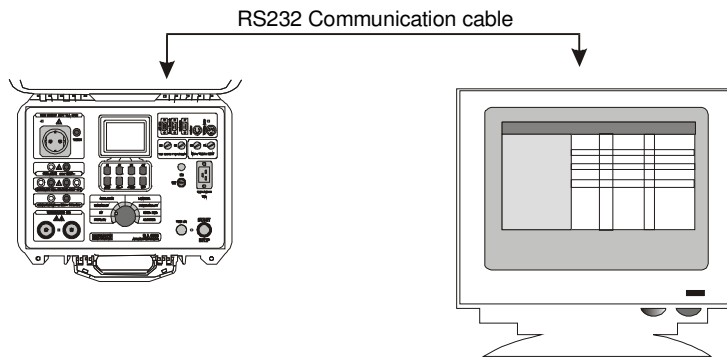

Fig. 53. Connection of APPLIANCE MULTITESTER to PC
- STEP 1. Connect APPLIANCE MULTITESTER to PC as shown in fig. 53 using appropriate RS 232 communication cable.